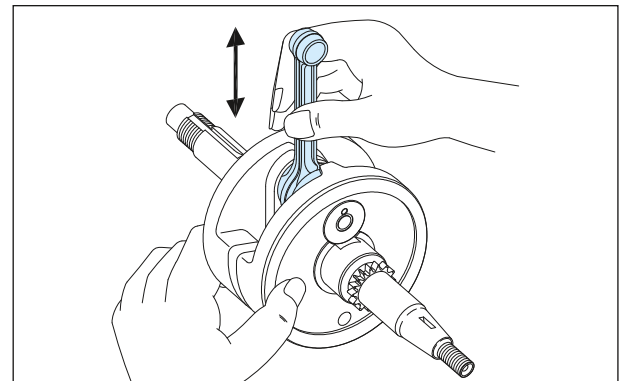

Fig. 3.93
- Also, holding the crankshaft assembly in hand, shake the connecting rod to find out the radial play. If any play is noticed, then replace the crankshaft assembly with a new one. (Fig. 3.93)